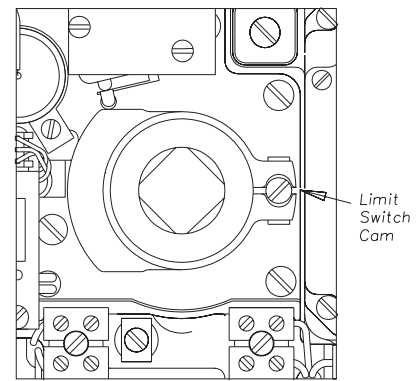

FIGURE 6b. DIGITAL EL SWITCH STRIKER METAL COUPLING. OPEN BOX, TOP VIEW.
4.2.2 Metal coupling cams are adjusted by releasing the screw shown in figure 6b, moving to desired position and retightening. Set the lever cam first. Ensure the clamp section of the cam does not strike a switch at any part in the actuator's travel.